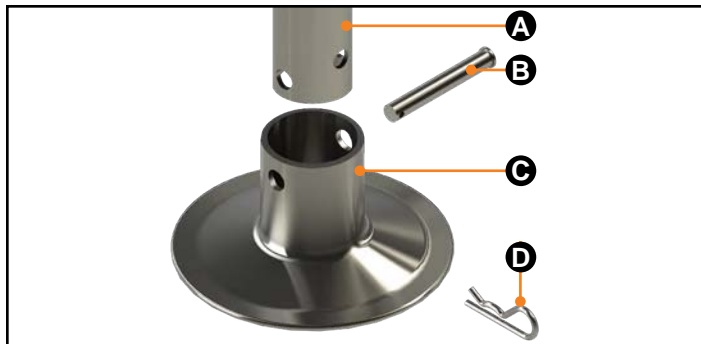

Fig.9
9. Reattach the foot pad to the jack leg by sliding the foot pad back over the bottom of the jack leg. Secure with the clevis pin and hairpin cotter pin, which were previously removed (Fig.9).